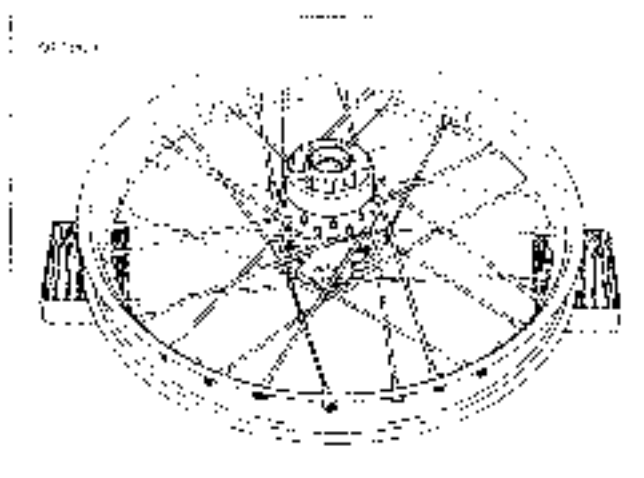

Figure 2-48.
8. See Figure 2-48. Place the remaining nine lower row spokes angled clockwise, into hub and rim.